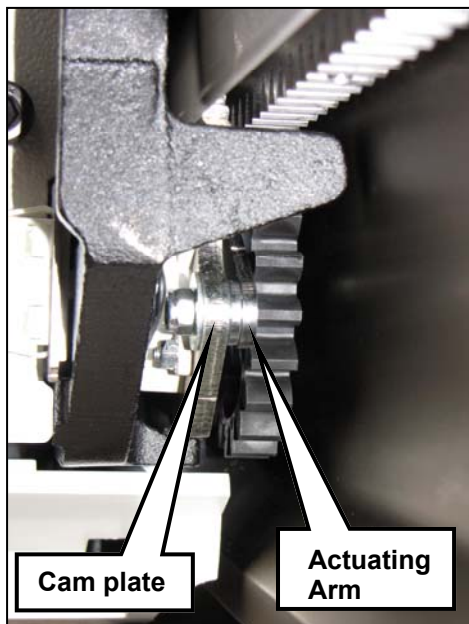

Figure 1
- To reset the OSG, hand-wind the stairlift upwards, using a ¼ inch drive socket on the motor hand winding shaft until the OSG cam plate can be seen to spring back into its travel position Fig 1.